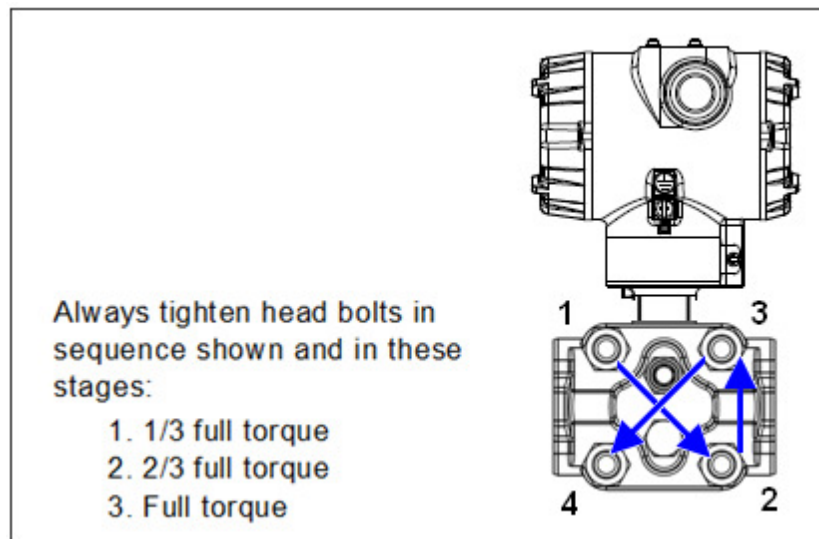

Figure 26 – Head Bolt Tightening Sequence
16. Use a torque wrench to gradually tighten nuts to torque rating in sequence shown in Figure 26. Tighten head bolts in stages of 1/3 full torque, 2/3 full torque, and then full torque.